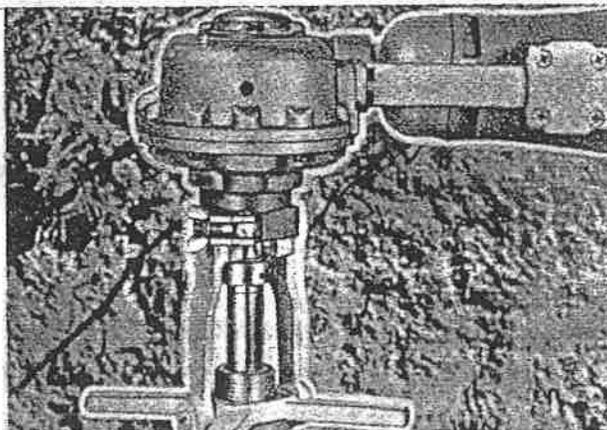

FIGURE 10
1. Place the gear case and motor on the drilling and tapping machine aligning the sockets with the square shanks on the boring bar and feed yoke. Socket which contacts feed yoke should be closed and wing nut tightened securely. FIGURE 10.